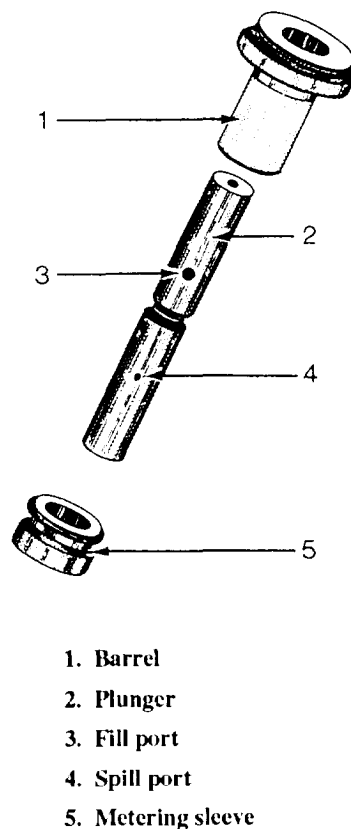

Figure 5-13. Sleeve metering barrel and plunger assembly.
**COMPONENTS.**— The three main components of the sleeve metering fuel system are designed and operated differently from earlier Caterpillar fuel injection systems. These components are the plunger, barrel, and sleeve, which are mated sets (fig. 5-13) and must be kept together. The plunger moves up and down inside the barrel and sleeve. The barrel is stationary while the sleeve is moved up and down in the plunger. Sleeve position is controlled by the action of the governor through varied loads to regulate the amount of